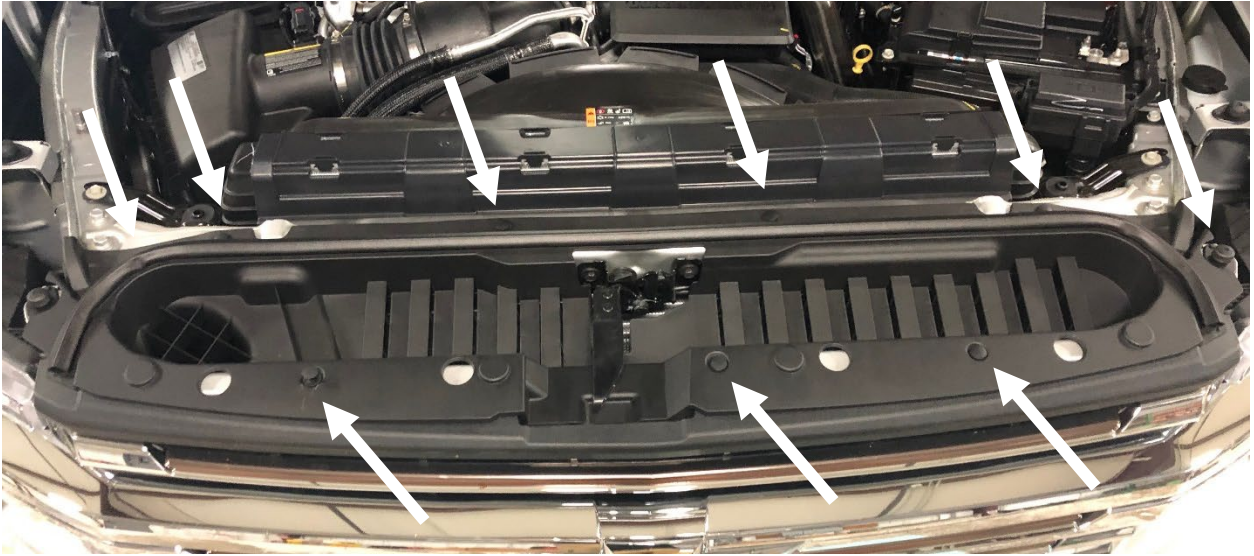

Figure 5
5. Use a body pry tool to remove the nine (9) push pins holding the grill cover. (Figure 5)